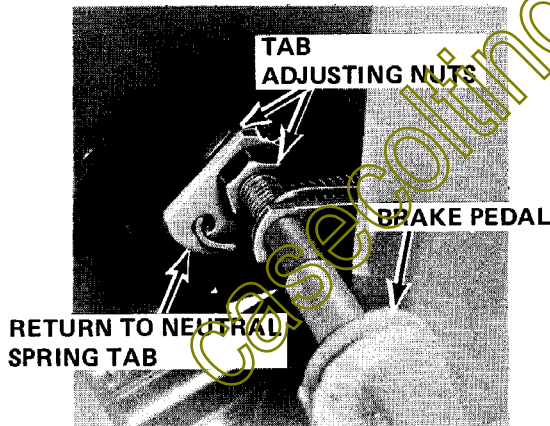

FIGURE 17
4. Make sure the tab points forward when the adjusting nuts are tightened. See Figure 17.